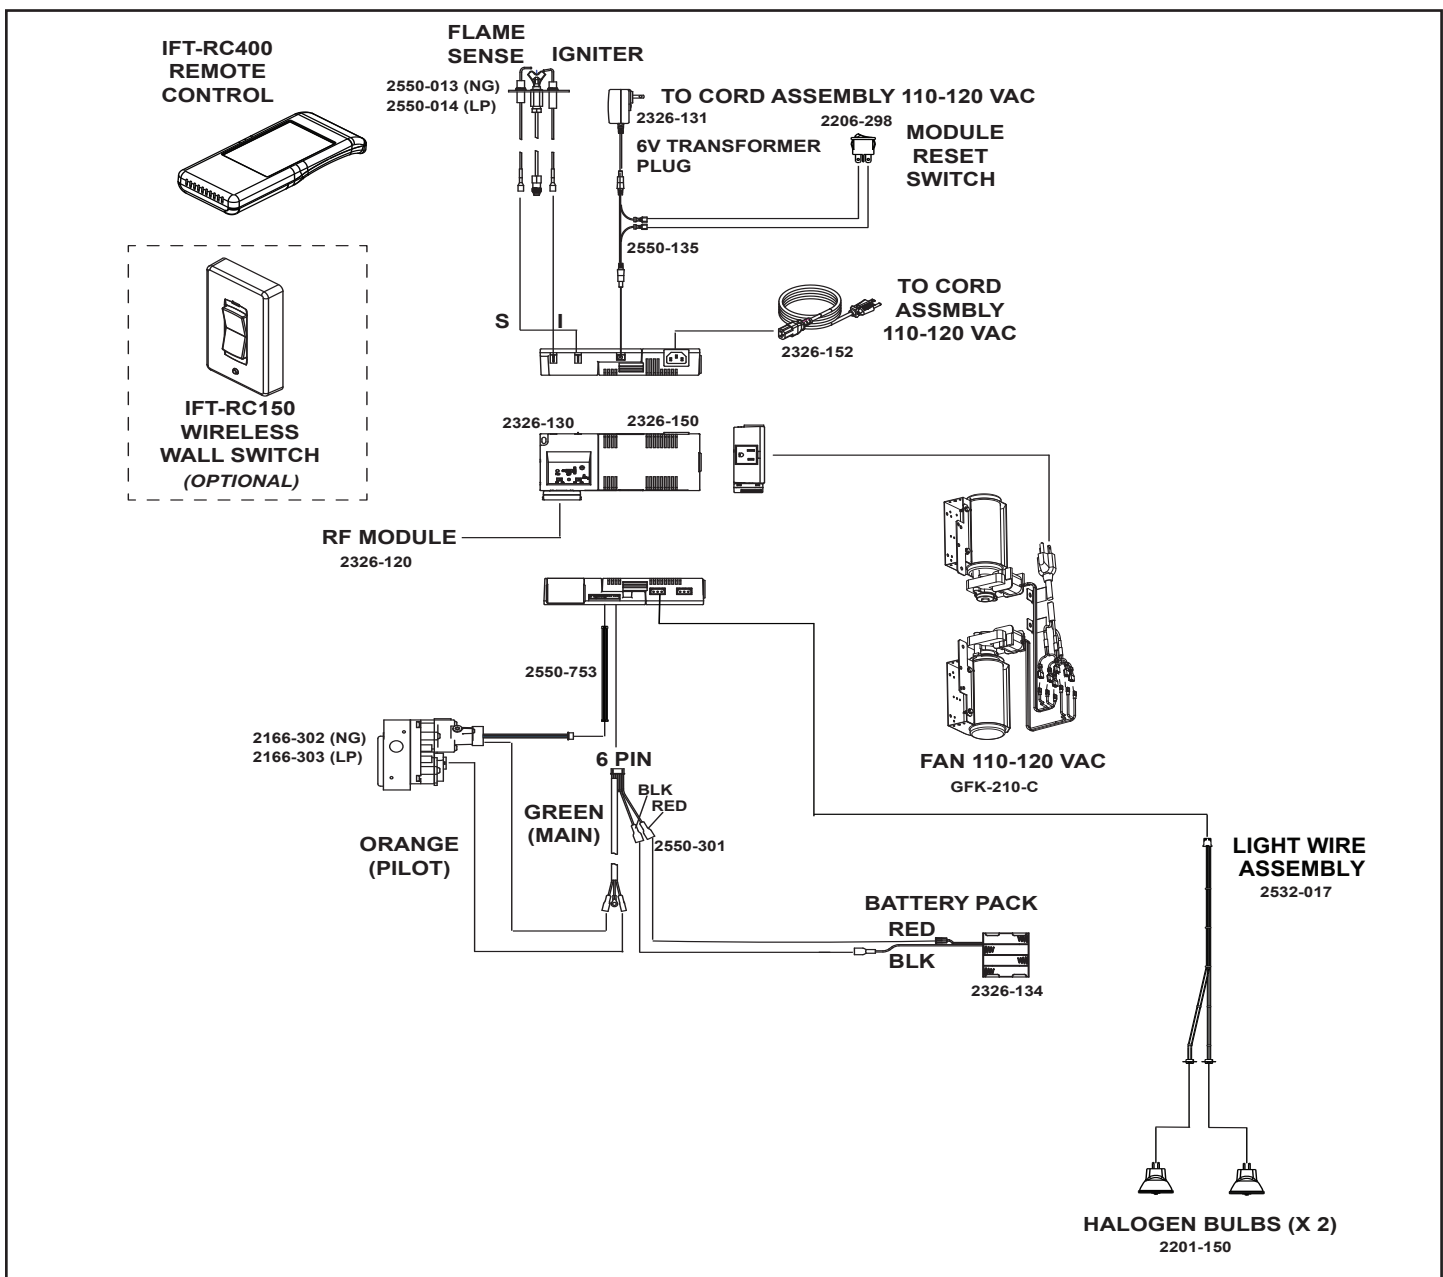

Figure 8.2 IntelliFire™ Touch Wiring Diagram
- Refer to Figure 8.2, IntelliFire™ Touch (IFT) Wiring Diagram.